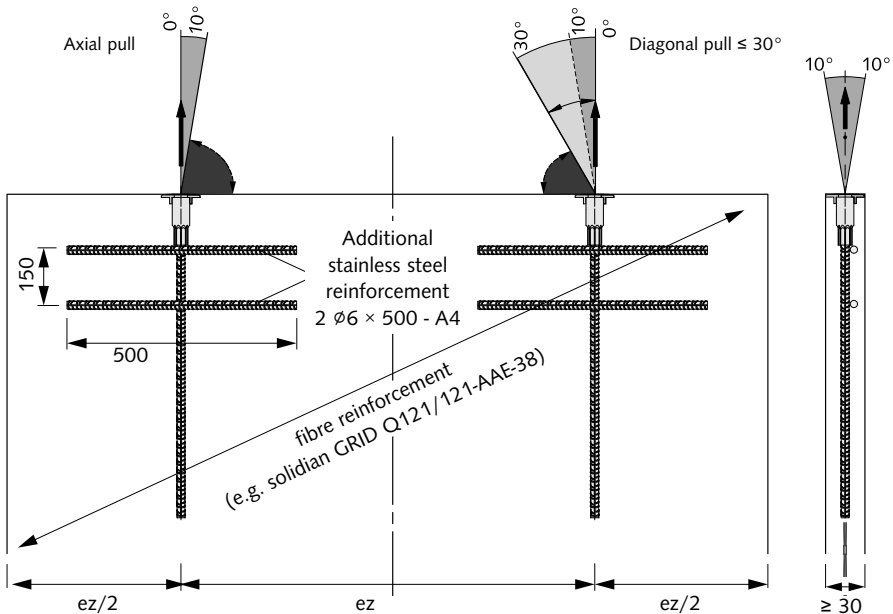

Fig. 1b: Installation of Anchor HD-SL30 (cross section)
3. The additional stainless steel bar reinforcement must be secured to the fibre reinforcement (with cable ties for example). One bar must be placed adjacent to the anchor sleeve, the other at a distance of 15 cm. (→ Fig. 1b)